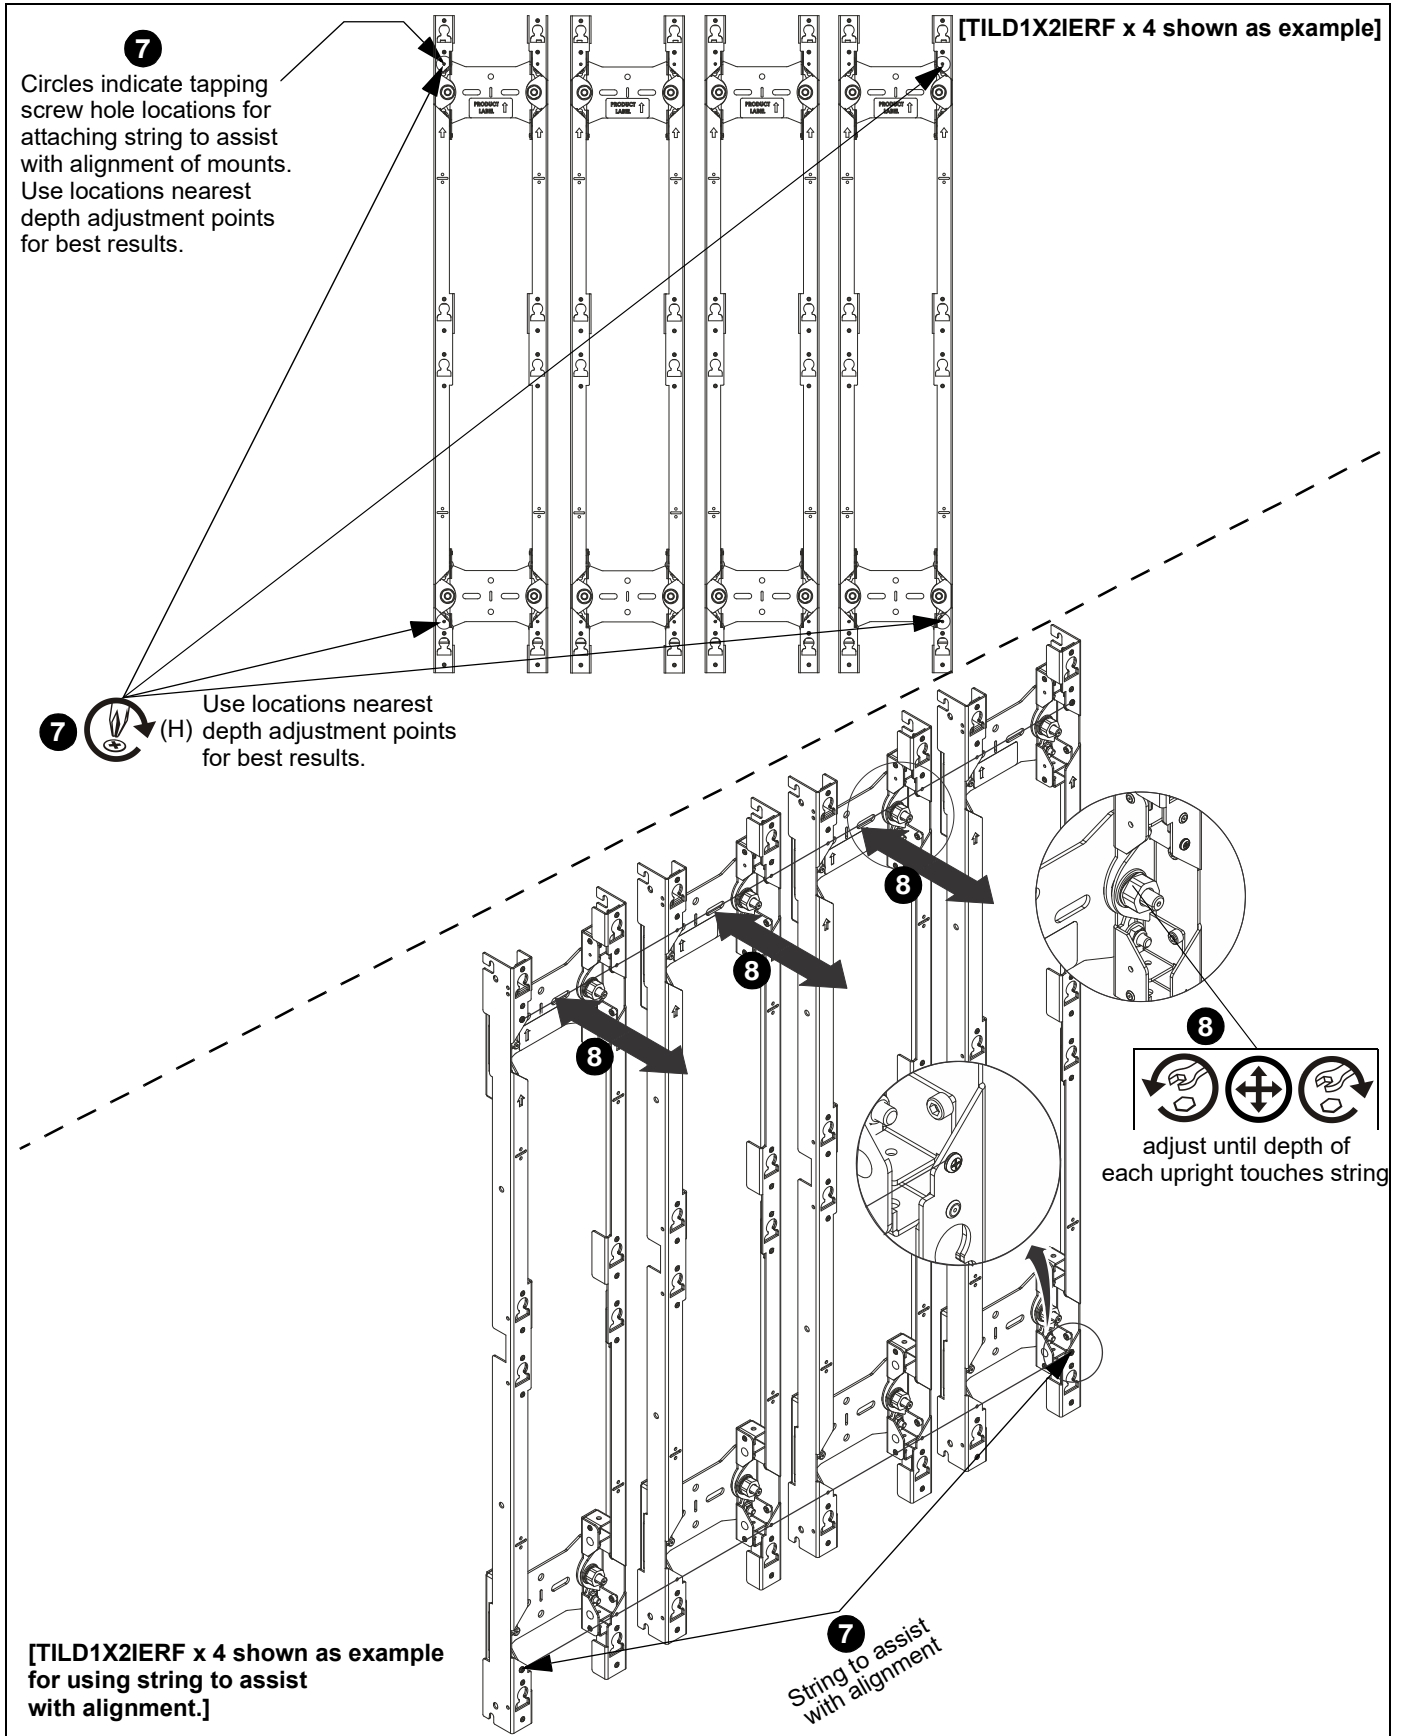

Figure 11
8. Turn 3/4" hex nuts on each upright to adjust depth to match the string depth as needed. (See Figure 11)
7. Run a string between the self-tapping screws installed in **Step 7** to assist with alignment across long sections of mounts. (See Figure 11)